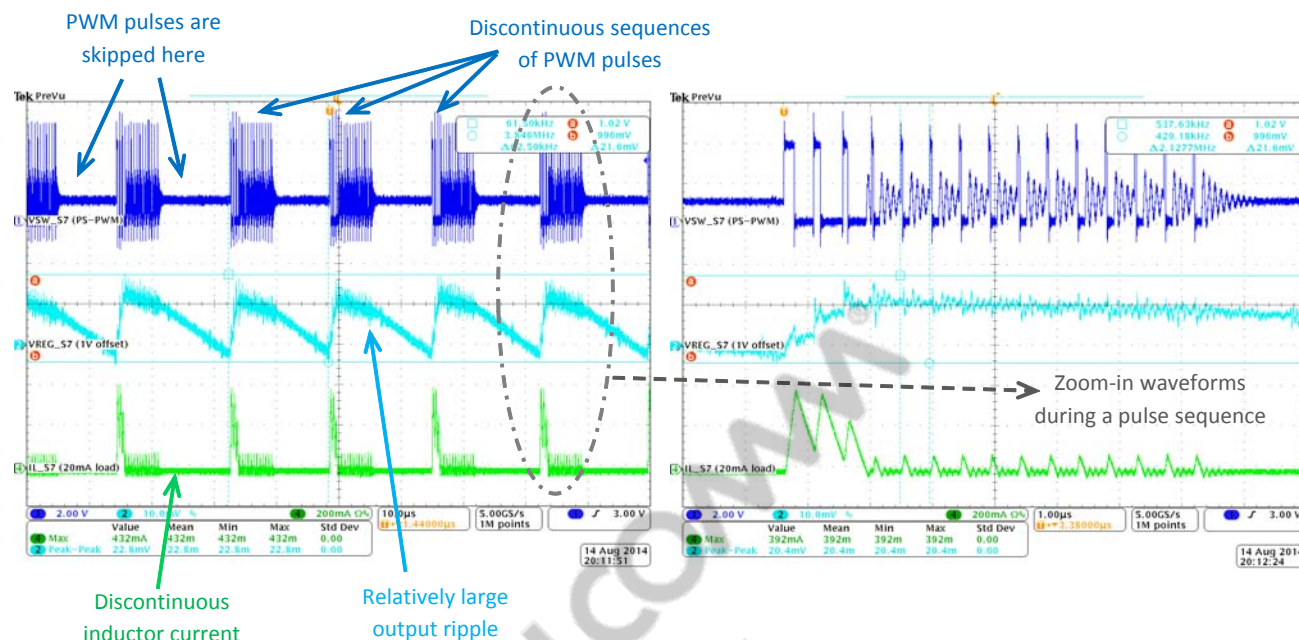

Figure 5 Waveforms of HF-SMPS in pulse-skip PWM
■ **Figure 5** – pulse-skip PWM with $F_{sw} = 2.13 \text{ MHz}$